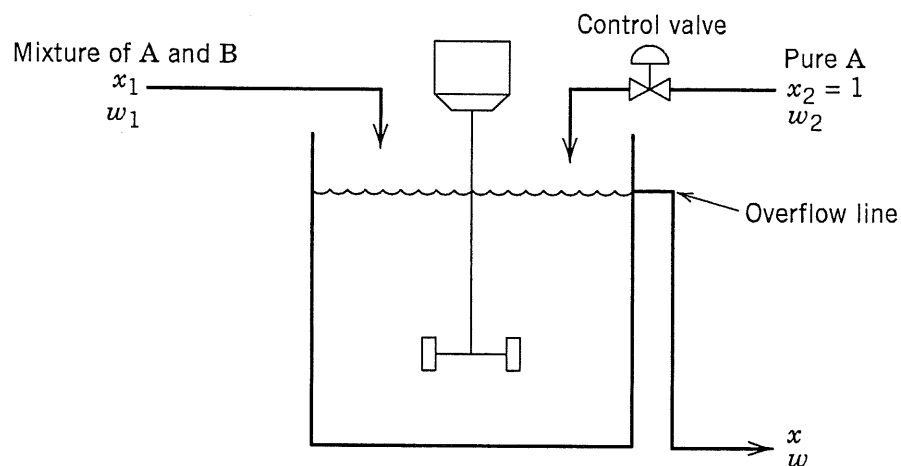

Figure 1
In Figure 1, a continuous stirred-tank blending system is depicted. It is assumed that the mass flow rate,  $w_1$ , remains constant, while the mass fraction of component
- ii) Illustrate how the composition control system is employed in Figure 1 (Hint: Include electrical signal and pneumatic signal)
a) Consider the stirred-tank blending process in Figure 1 (Page 2). If the nominal steady-state conditions are  $w_1 = 600$  kg/min,  $w_2 = 2$  kg/min,  $x_1 = 0.050$ , and  $x_2 = 1$  (for pure solute). Also, the liquid volume and density are constant:  $V = 2$  m3 and  $\rho = 900$  kg/m3, respectively. Given: